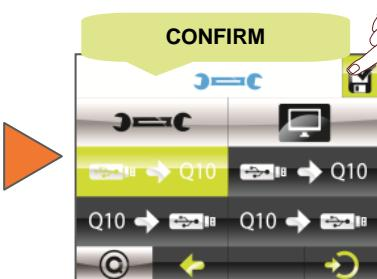

FIGURE 2.
- 2. Confirm the operation (fig. 2)